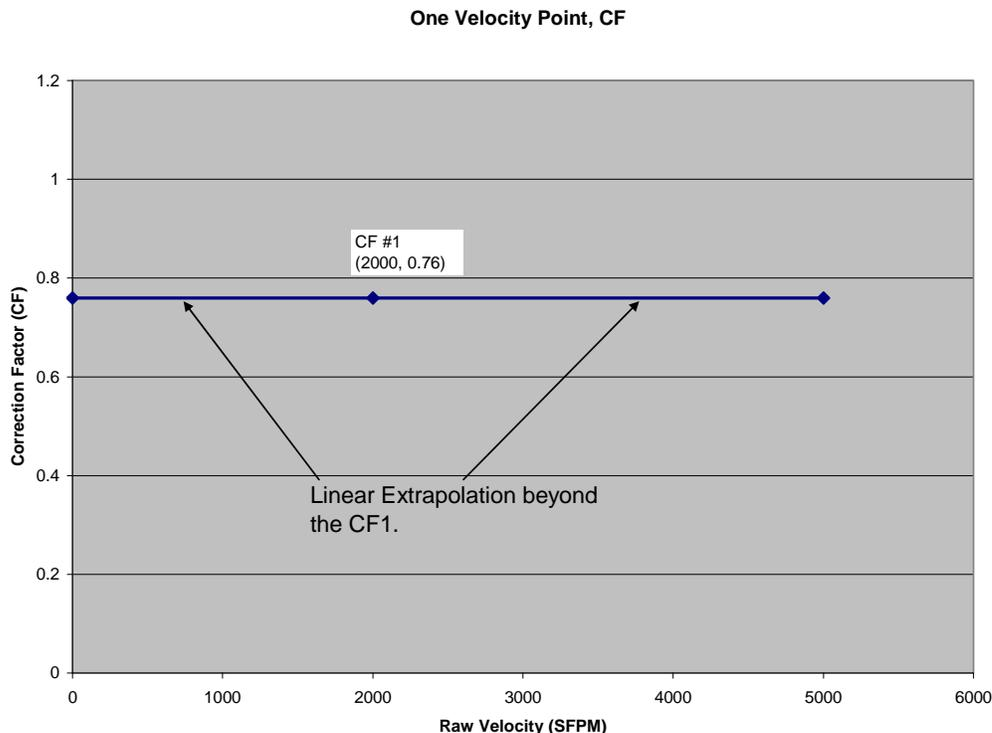

Figure AK-1 Correction factor function with one data point.
The variable correction factor examples shown in Figures AK-1 to AK-5 have a CF at velocity X. However, the actual meter menus for this data are based on two velocity numbers, the reference velocity (R) at the observed velocity data (D) as shown in Table AK-1.